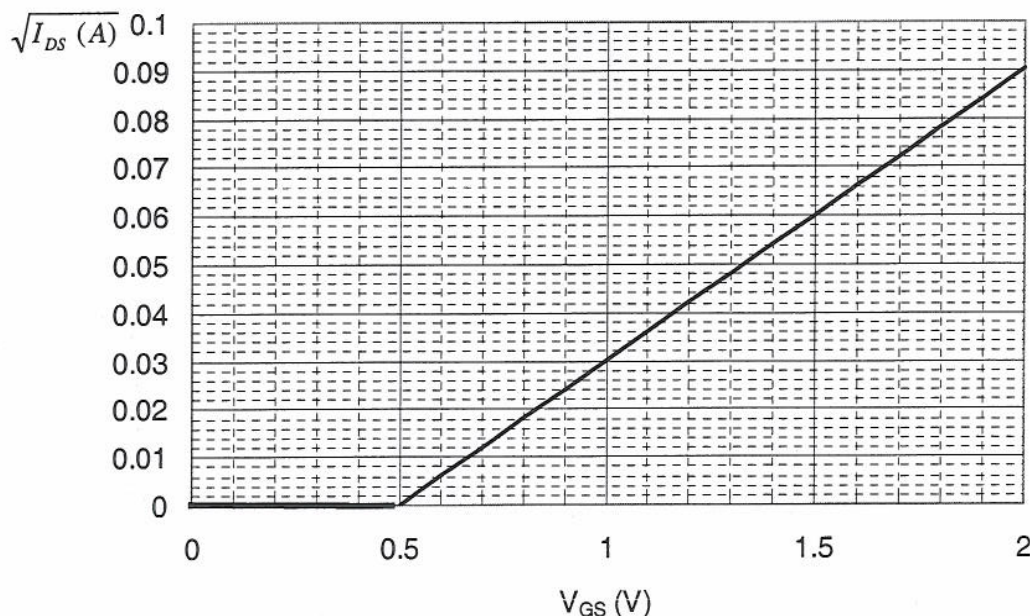

Figure 2.2: The transfer characteristics: $\sqrt{I_{DS}}$ versus V_{GS} of an ideal n-channel MOSFET
- d) In Figure 2.2 the transfer characteristic $\sqrt{I_{DS}}$ versus V_{GS} of an ideal n-channel MOSFET with a gate length of $1 \mu m$ is given. The maximum capacitance measured between gate and bulk contact of the MOSFET is $C_{max} = 1.45 \times 10^{-13} F$. Determine the mobility μ and the threshold voltage V_{th} of the MOSFET. [10]
The gradient of the transfer characteristics, *grad* in Fig. 2.2 is $grad = \sqrt{\frac{\mu C_{max}}{2L^2}}$